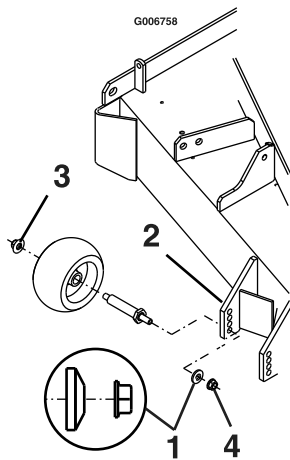

Figure 10
8. Torque the 3/8–16 whizlock nut to 30-35 ft-lb (41-47 N-m) (Figure 10).